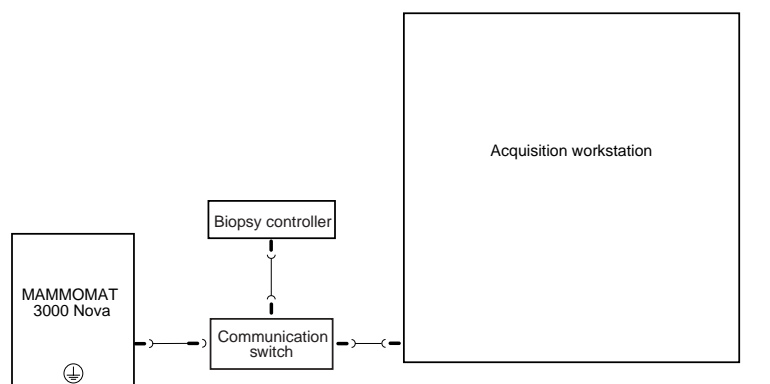

Fig. 5
- If a communication switch is installed (option), connect the cables according to Fig. 5.